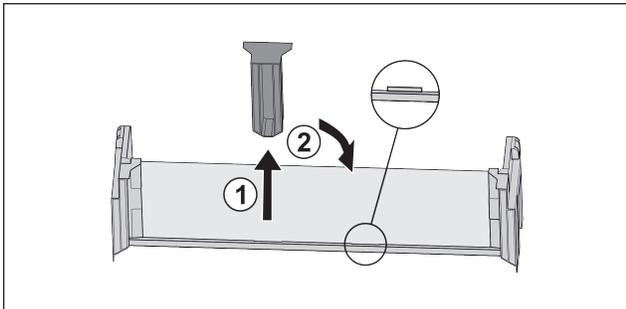

Fig. 18 \*
- ▶ Pull off the middle holder Fig. 18 (1).\*
- ▶ Insert the middle holder in the second position Fig. 18 (2).\*